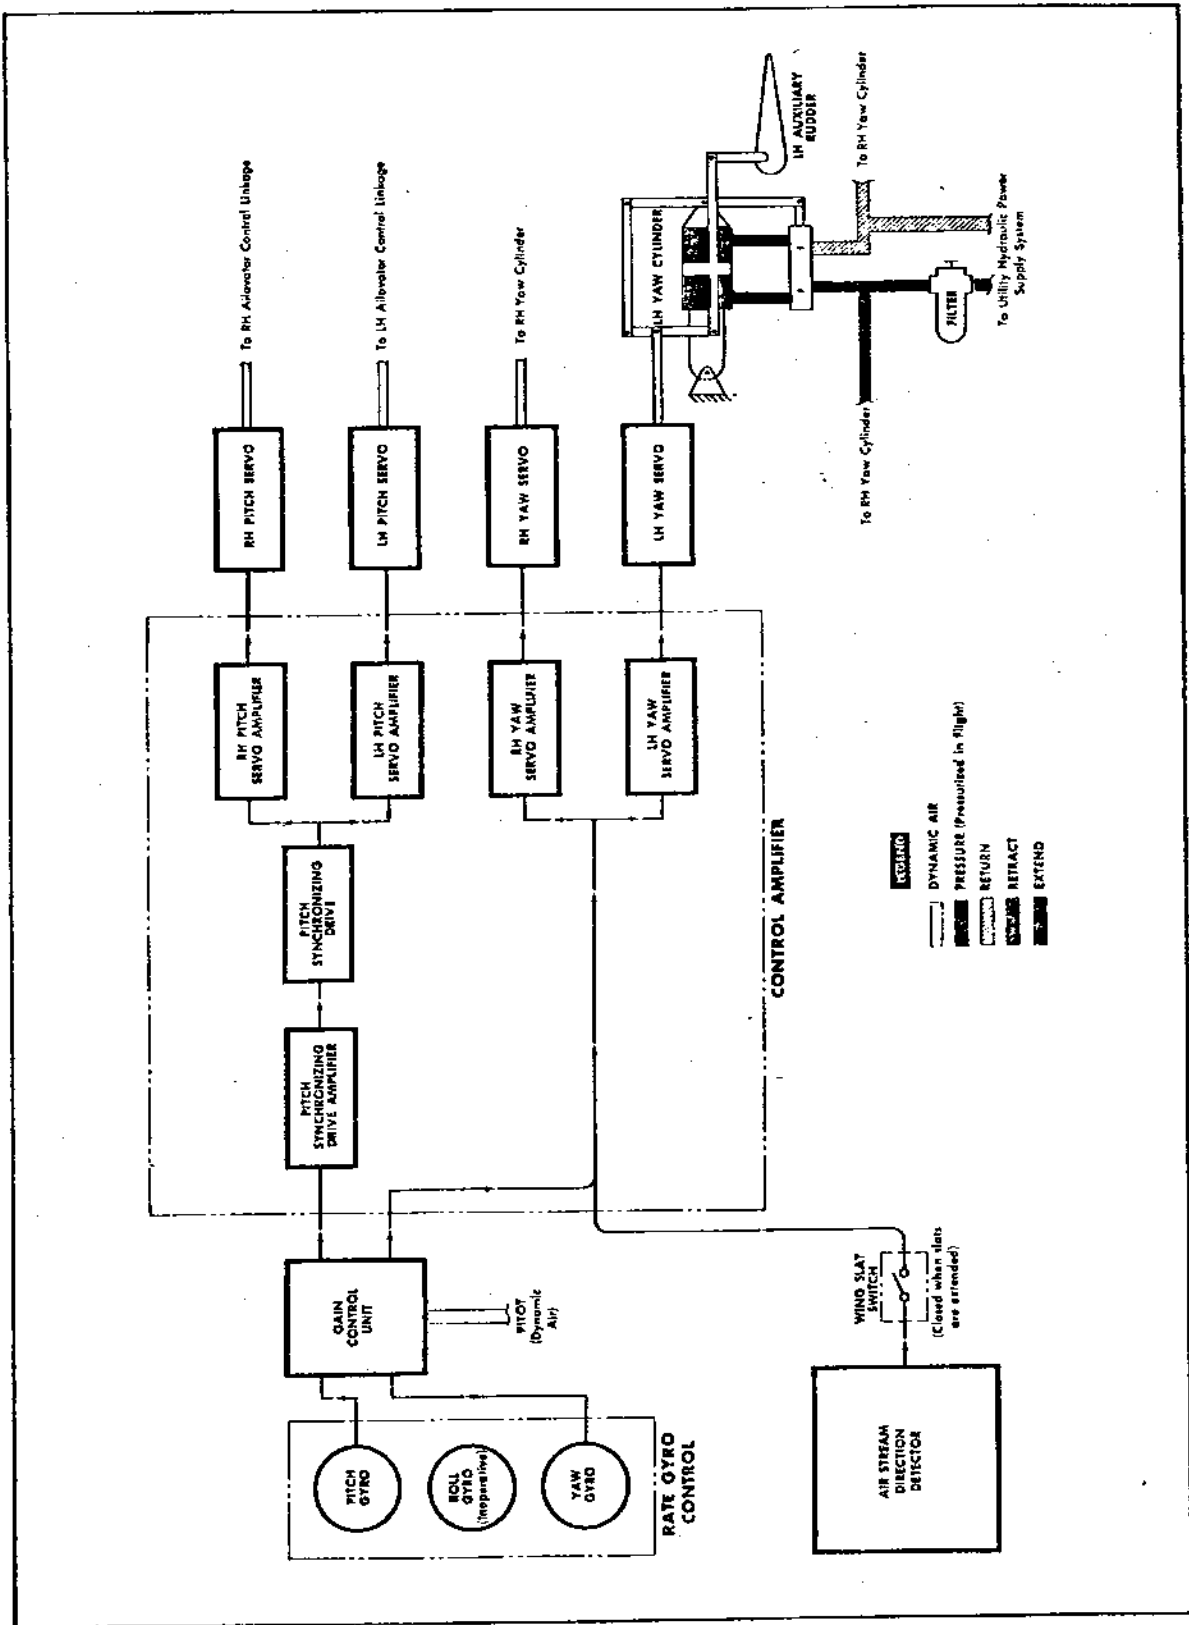

Figure 1-21. Flight Stabilization System Schematic
**GENERAL.** The flight stabilization system (figure 1-21) improves the stability of the airplane as a gunplatform and contributes to the safety of flight and the comfort of the pilot. When the system is in operation, oscillations in pitch and yaw are sensed by the pitch and yaw gyros housed in the rate gyro control and corresponding electrical signals are sent out. These signals are adjusted by the gain control unit to compensate for the decrease in effectiveness of the airplane's control surfaces at higher altitudes, lower airspeeds, or both. The adjusted yaw or pitch signal is then passed to the control amplifier for signal amplification.